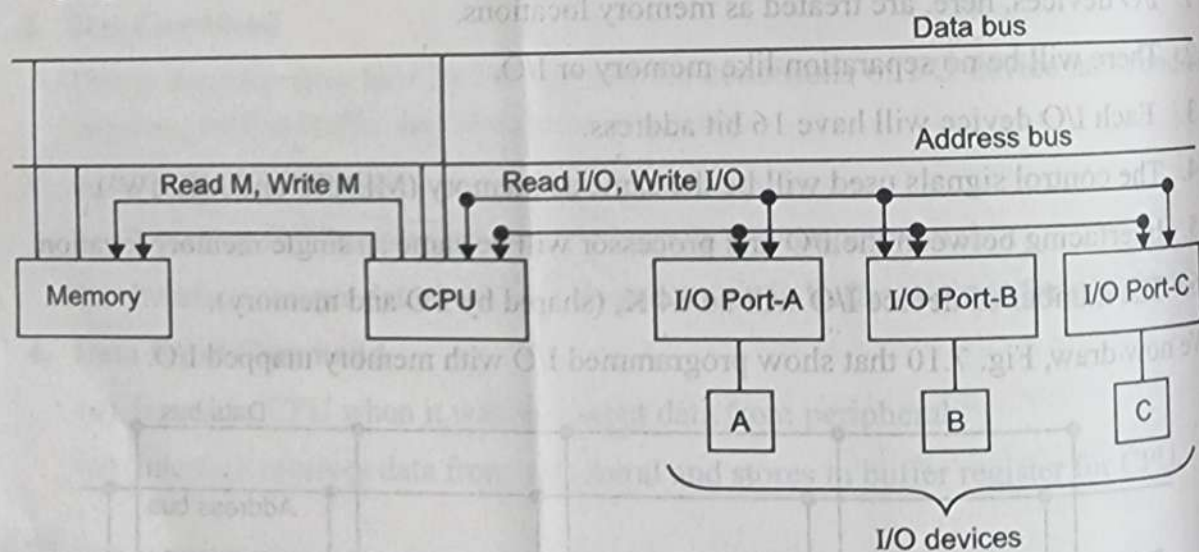

Fig. 7.12. I/O mapped I/O
3. 256 input and 256 output devices can be connected. We now draw Fig. 7.12 that shows programmed I/O with I/O mapped I/O.